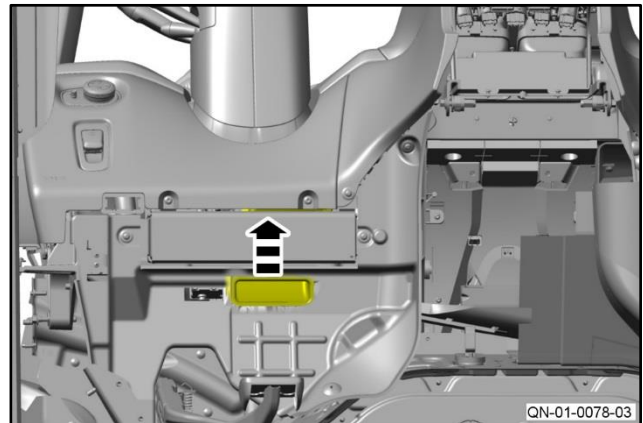

Figure 3
3. Move the vent duct to get access to the steering column (refer to Figure 3).